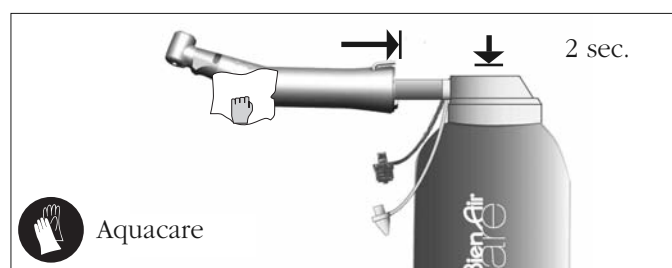

fig. 4
- Spray for 2 seconds on the inside and outside of the attachment remove of residues and any remaining physiological liquid **fig. 4**.